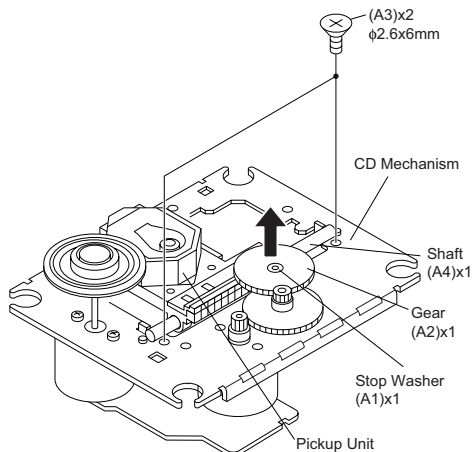

Figure 1
2.1. Remove the pickup. (See Fig. 1)